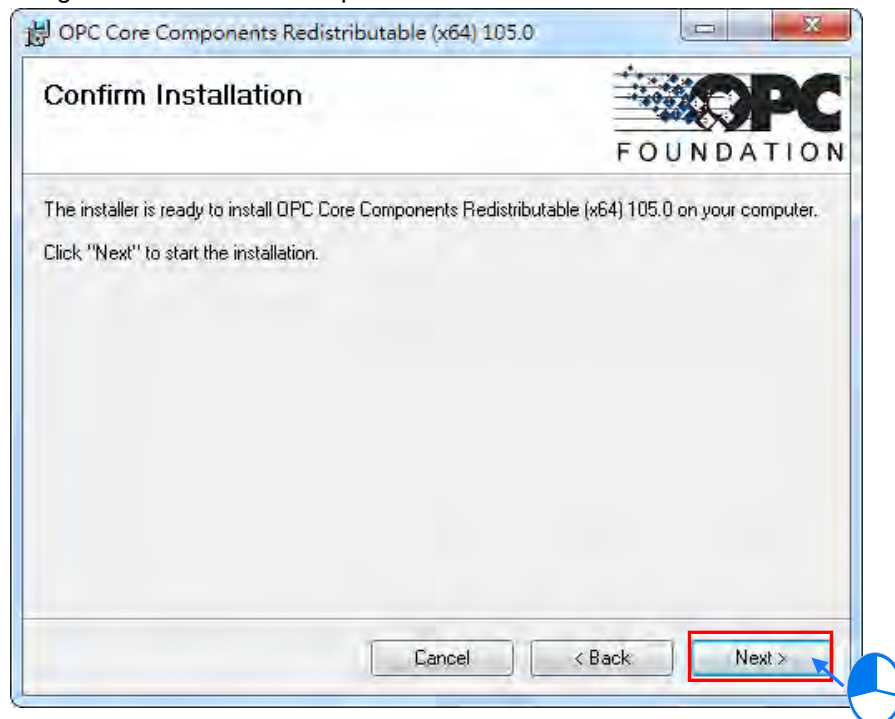
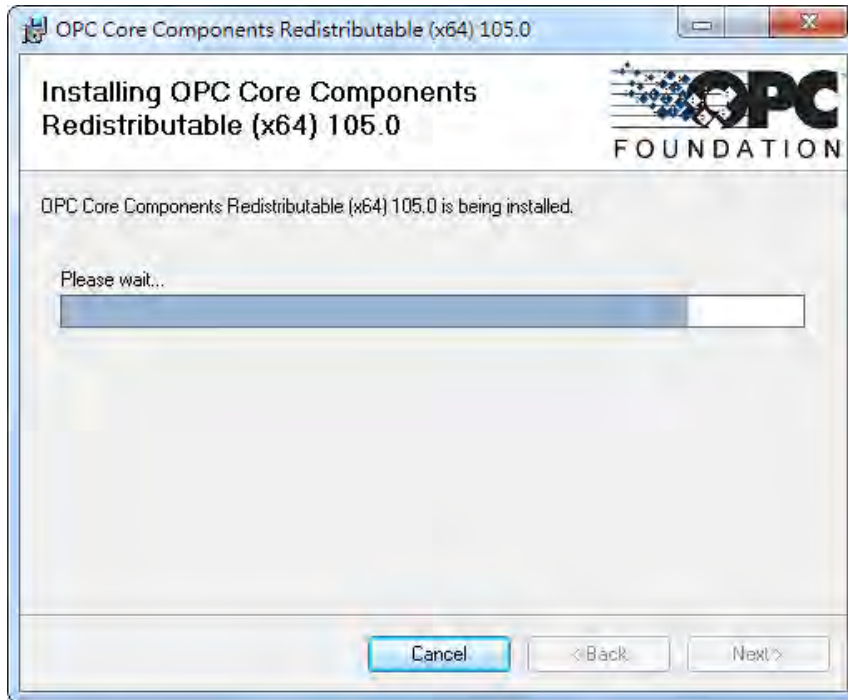

Figure 1-8 Confirm Installation
Figure 1-9 Installation Process
- (7) Click Next to confirm the installation as shown in figure 1-8. And the system will start installation as shown in figure 1-9 the installation process.
The main purpose of Hard Key is to drive Delta OPC so that Delta OPC can be connected to a PLC and monitor the PLC. The appearance of Hard Key is as shown in figure 1-8.
Figure 1-9 shows icons representing incorrect connections on a system tray. The left icon represents an RS-232 connection, and the right icon represents an Ethernet connection.